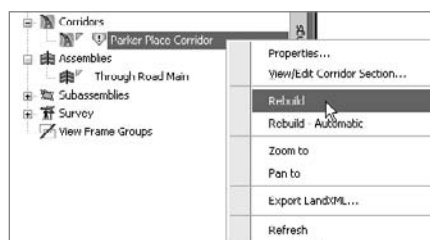

Figure 11.35
- Locate the Parker Place Corridor entry on the Prospector. Right-click the entry and choose Rebuild as shown in Figure 11.35.